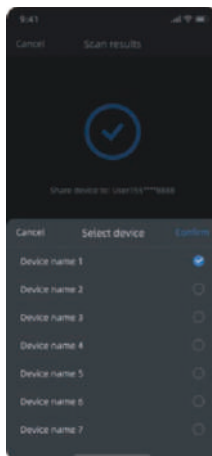

Figure 4
4)Figure 4: When there are multiple devices under your name, you can select the device you want to share in the **"Select device"** pop-up window.